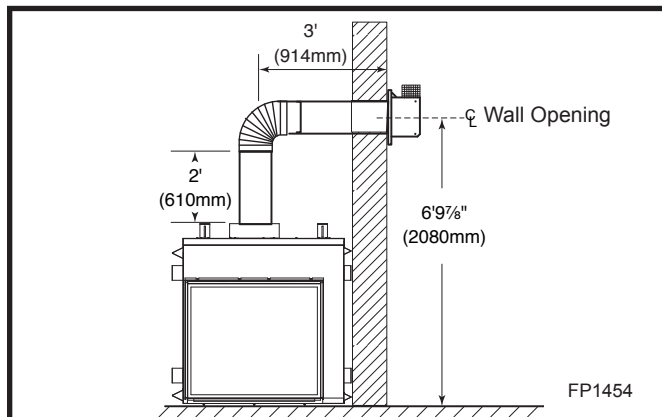

Fig. 15 Minimum vertical run / maximum horizontal run.
- The maximum number of 90° elbows per side wall installation is three (3), but must not have two (2) consecutive elbows in the horizontal plane.
- A minimum of 2' (610mm) vertical section off the top of the unit is required, an elbow and a 1' (305mm) maximum horizontal run to get through a wall. (Fig. 15)
- The maximum number of 45° elbows permitted per side wall installation is two (2). These elbows can be installed in either the vertical or horizontal run. (Fig. 15)